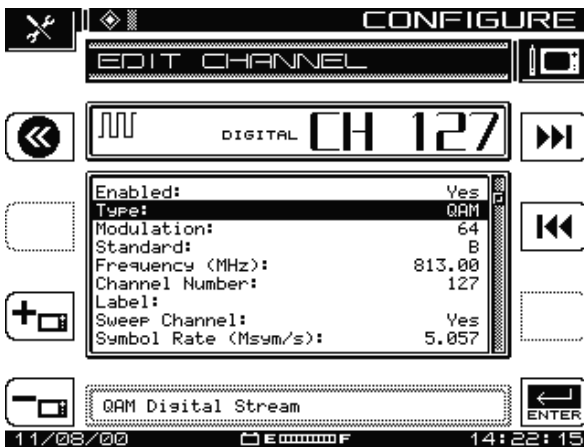

Fig. 3-10 EDIT CHANNEL Menu Screen (Type: QAM)
2. Press the down diamond key to highlight Type from the EDIT CHANNEL menu and press Enter to edit the current selection. Use the down diamond key to select QAM Digital Stream and press Enter (see Figure 3-10).